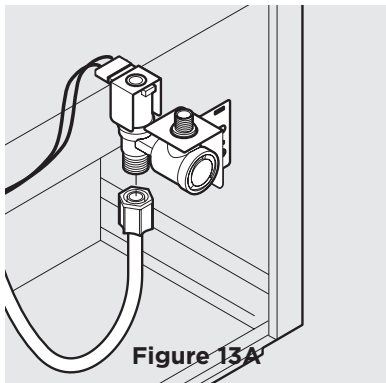

Figure 13A
17. You can use 2 types of water valves with this kit. Follow the instructions which apply to the type of valve supplied with your kit. See Figures 13A and 13B.
For valves with a threaded outlet (Figure 13A), push the bullet-shaped end of the green tube into the valve and tighten the plastic nut (finger tight). Then tighten it an additional 1/2 turn with a wrench. **DO NOT** overtighten.